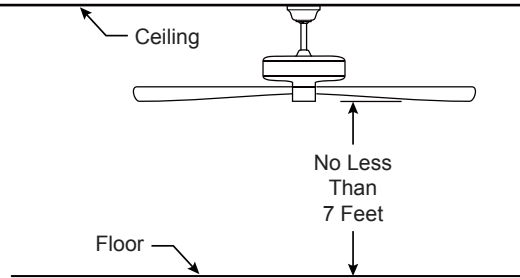
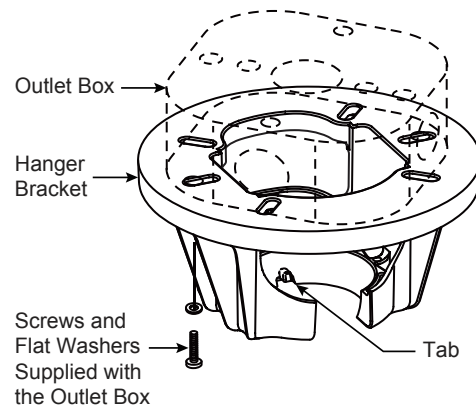

Figure 2
Figure 3
Your new ceiling fan will require a grounded electrical supply line of 120 volts AC, 60 HZ, 15 Amp Circuit. Electrical code requires use of a fan-rated outlet box to support the extra weight and motion associated with a ceiling fan. A fan-rated outlet box will be labeled as such and typically supports up to a 70lb ceiling fan. Fan-Rated Outlet Boxes vary in ratings and design. Ensure the ratings of your ceiling fan outlet box meet the requirements for the ceiling fan being installed. Figure 1, Figure 2 and Figure 3 depicts different structural configurations that may be used for mounting the outlet box.
Deep outlet box (Figure 2)
Deep outlet box with brace (Figure 3)
- 2. Remove the hairpin clip and clevis pin from the bottom of the downrod. Retain the pin and clip for reinstallation in Step 4. (Figure 2)
- 3. Loosen the two set screws and locking nuts in the downrod support of the motor assembly. Route the black, white and blue wires through the downrod. (Figure 3)
2. Assemble the housing assembly to the support bracket using the two key slots in the housing assembly. Replace the previously removed screw and securely tighten all three screws. (Figure 2)
3. Remove one of the three screws in the housing assembly. Retain the screw for later and slightly loosen the remaining two screws. (Figure 3)
The fan must be hung with at least 7' of clearance from floor to blades. (Figure 2)
- 1. Securely attach the hanger bracket to the outlet box using the outlet box screws and washers supplied with the outlet box. (Figure 3)
NOTE: Outlet box screws pass through slotted holes of the hanger bracket. (Figure 3)
- 3. Carefully lift the fan and seat the downrod/hanger ball assembly onto the hanger bracket that was just attached to the outlet box. (Figure 4) Be sure the groove in the ball is lined up with tab on the hanger bracket. (Figure 3)
To avoid possible electrical shock, be sure electricity is turned off at the main fuse box before wiring. (Figure 2)
- 2. Slide the receiver into the hanger bracket before wiring as shown in figure 3.
- 2. Securely attach and tighten the canopy screw cover over the shoulder screws in the hanger bracket utilizing the key slot twist-lock feature. (Figure 2)
2. Restore electrical power to the outlet box by turning the electricity on at the main fuse box. (Figure 2)
3. To make fan operational, install 23A/12V battery (included) in hand-held remote transmitter, with fan power off. Then follow the remote code setting process. (If not used for long periods of time, remove battery to prevent damage to transmitter). Store the remote away from excessive heat or humidity. (Figure 3)